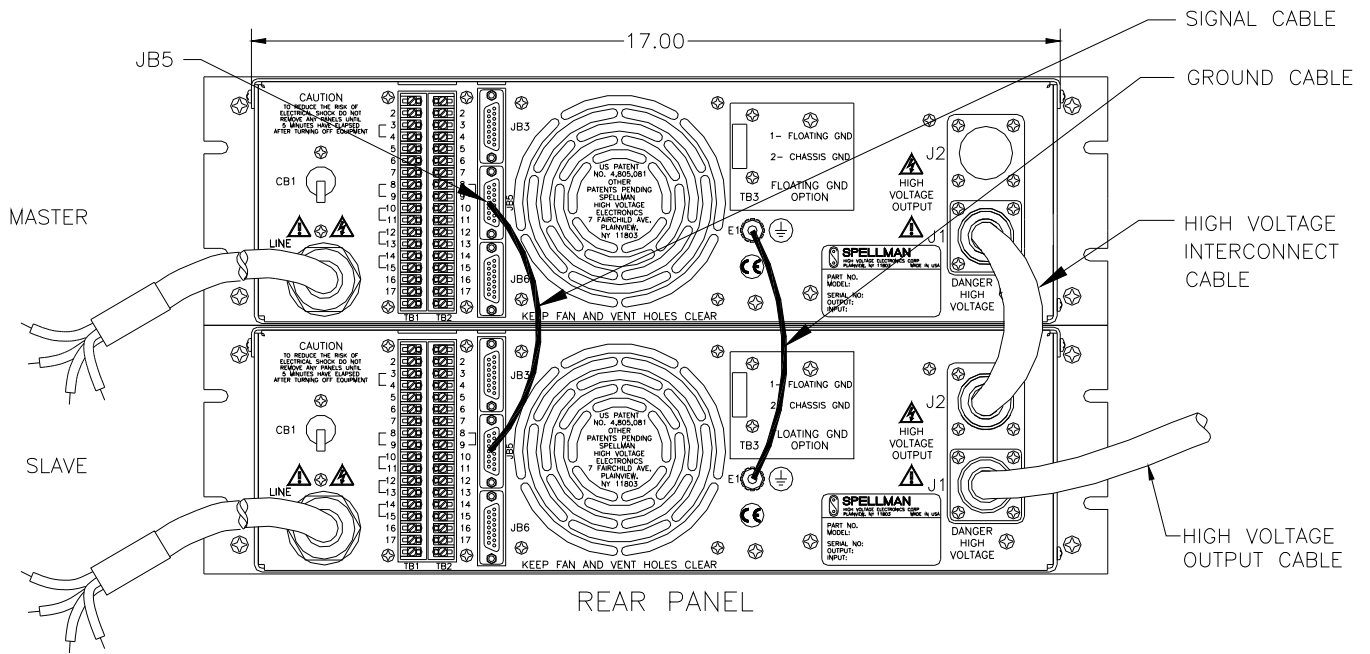

Figure 5.5 8kW Installation Drawing
1. Install the racks per Figure 5.5.